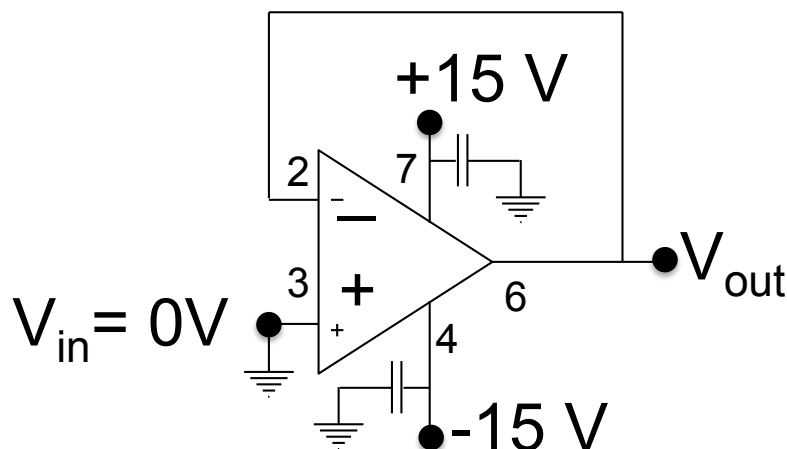

Figure 5. Schematic of a voltage follower with the input grounded.
Step 2	<p>Testing the op-amp</p> <p>a. You can save yourself some frustration by testing your op-amp chips to make sure they are not burned out. Connect the op-amp as a voltage follower with the (positive) input grounded (see Fig. 5). What is the predicted voltage on pins 2, 3, 4, 6 and 7 using the Golden Rule model? Measure and record the measured voltages on these pins. If your predictions do not match your measurements check your connections to the chip to find the problem. Make sure your predictions match your measurements before going on.</p> <p>b. If you find you have a bad chip, throw it in the trash to save another person from having to deal with it. (In case you are wondering, the LF356 costs \$0.50)</p>